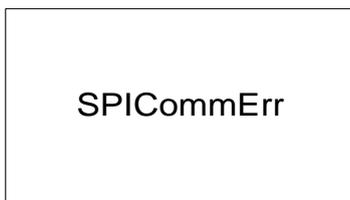

Figure 5-4 Fault indication interface
(4) Fault mode, as shown in Figure 5-4: